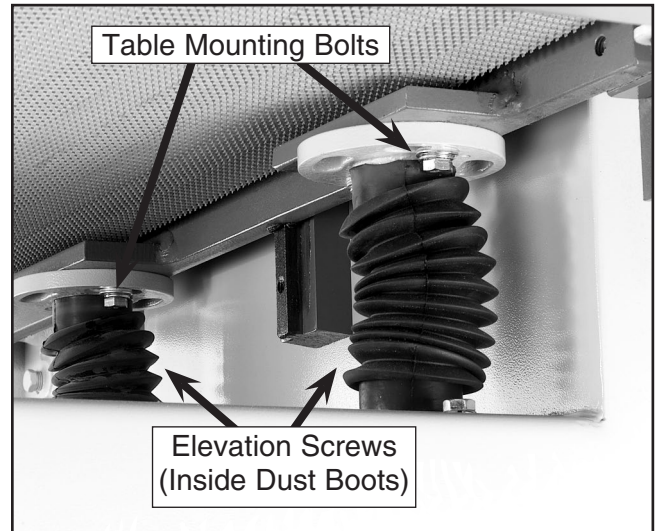

Figure 20. View of table underside.
Adjusting the table parallelism can be a very tedious task that takes a great amount of patience. DO NOT adjust the table unless you are having trouble sanding your workpiece to a uniform thickness. Take precise notes on **any** adjustments you make to **any** of the table elevation screws (**Figure 20**). This will allow the original setting to be re-established.
4. The corners of the table can be independently adjusted up or down by spinning the table elevation screws (**Figure 20**) located under each corner of the table. Note—*The table mounting bolts (**Figure 29**) need to be removed first.*